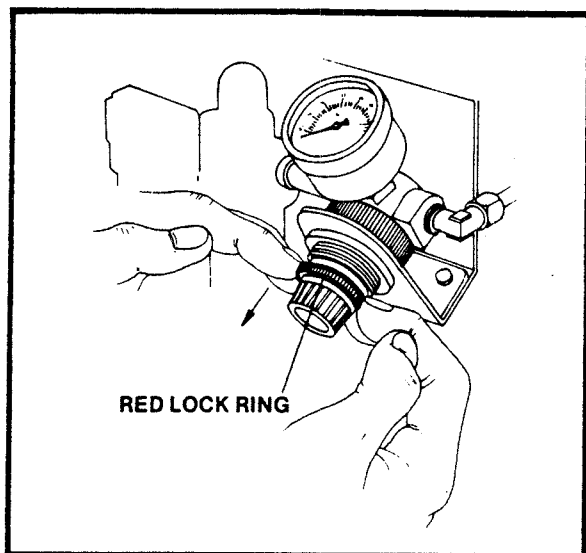

FIGURE 8 - REGULATOR LOCKING RING
To provide independent adjustment of the side guide and top taping head movements, the air supply is routed through the main filter-lubricator assembly and then split into two separate circuits. Both the side guide and top taping head circuits have controls and settings as follows (refer to figures 8 - 11).
**NOTE:** All air pressure regulators discussed below have a red lock ring behind the adjustment knob, as shown in figure 8. The red lock ring should be pulled toward the knob to unlock the knob for air pressure adjustments, pushed back against the regulator body to lock the knob after adjustment if desired.